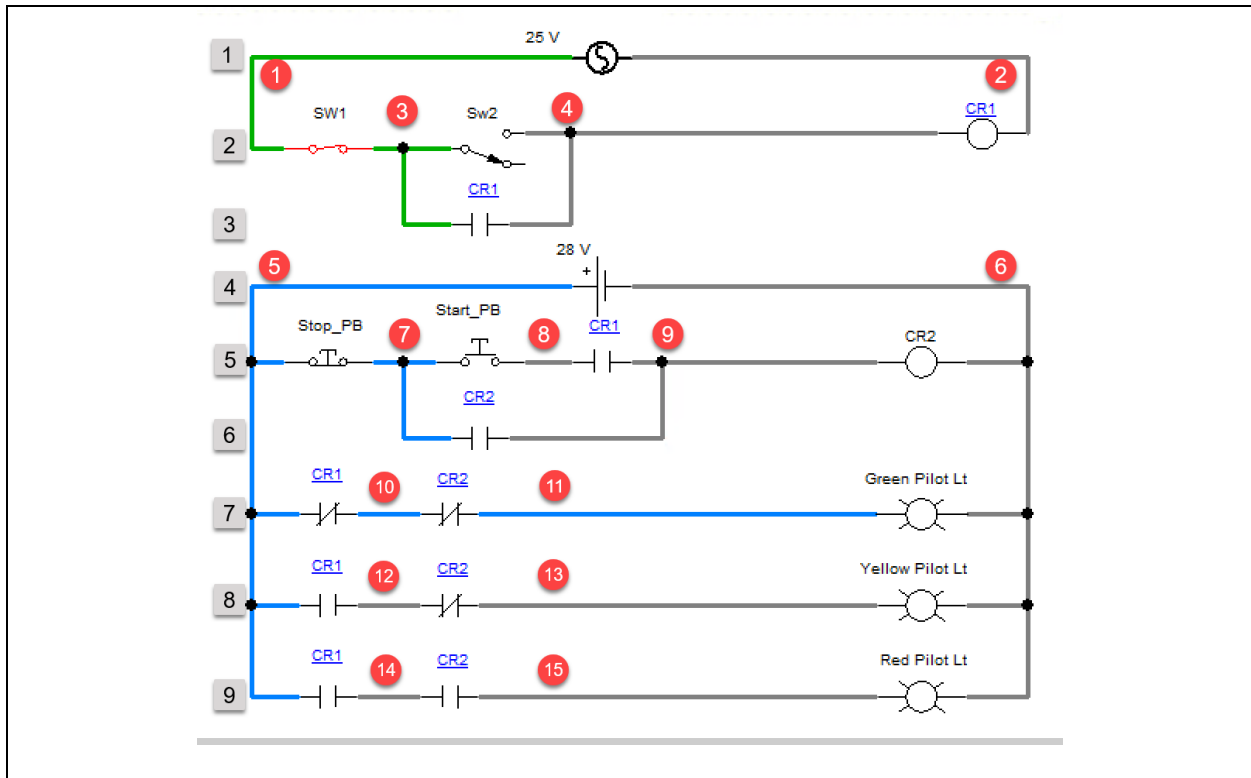

Figure 2. IND220 Lab 2.3 Circuit 1, with line and wire numbers added
Figure 2 shows Circuit 1 with the line numbers (left hand side of the ladder circuit diagram), as well as the numbers for each electrical node (wire number).
Notice on line 5 in the circuit in Figure 2, CR1 contact must be closed (CR1 coil is energized) and the Start_PB has to be actuated in order to energize CR2.
1. T F In the circuit in Figure 2, CR2 can be energized without having CR1 energized.
2. T F In the circuit in Figure 2, the DC circuit will be disabled if SW1 is opened.
3. In the circuit in Figure 2, which pilot light should be on if CR1 and CR2 are both on?
4. In the circuit in Figure 2, if CR2 is on, and no pushbuttons are actuated, what would the voltage be between wires 9 & 6?
5. In the circuit in Figure 2, if CR2 is on, and no pushbuttons are actuated, what would the voltage be between wires 8 & 6?